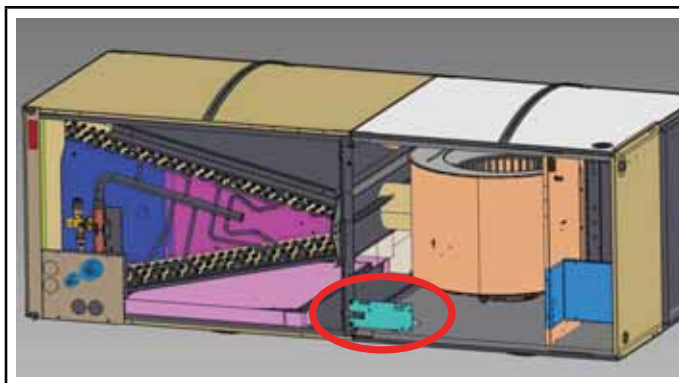

FIGURE 20
- 3 - With air handler unit panels removed, install sensor bracket assembly to the unit by lining up holes in the center support bracket as shown in figure 20. Note: sensor should be facing toward the inside of the unit.